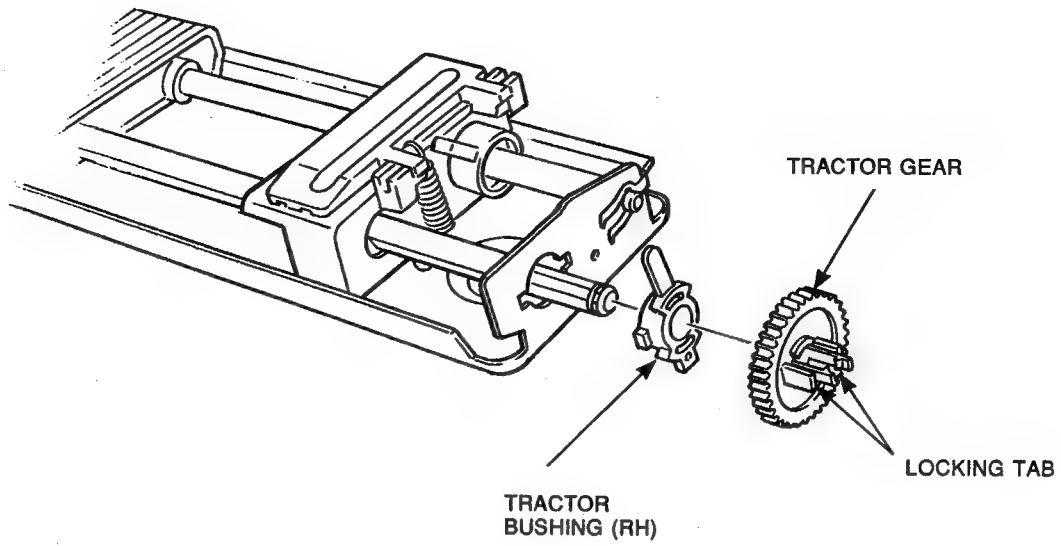

Figure 3-58 Tractor Gear and Tractor Bushing (RH)
1. Remove the tractor gear from the tractor drive shaft by unlocking the lock tab (see Figure 3-58).
2. Releasing the locking tab, turn the tractor bushing (RH) until the tabs on the bushing align with the slot on the tractor frame and remove it (see Figure 3-58).